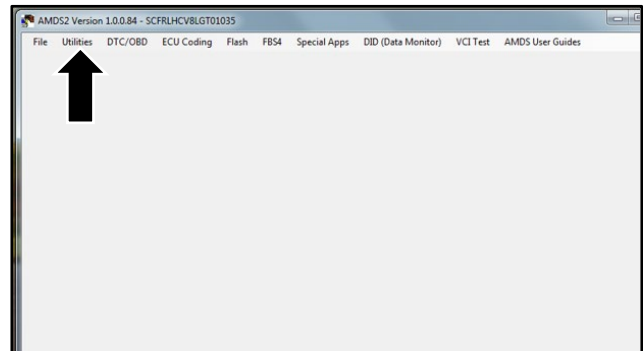

Figure 2
5. Select "Utilities" (refer to Figure 2).